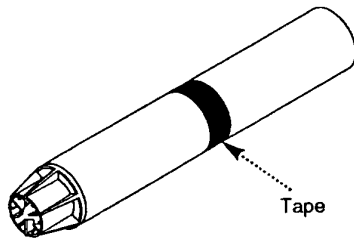

Fig. 49
7. Take the flue terminal assembly and engage on the flue and air ducts. Slide the flues together to the desired flue length. Tape the sections together with the tape provided ensuring a good seal is made (Fig. 49).